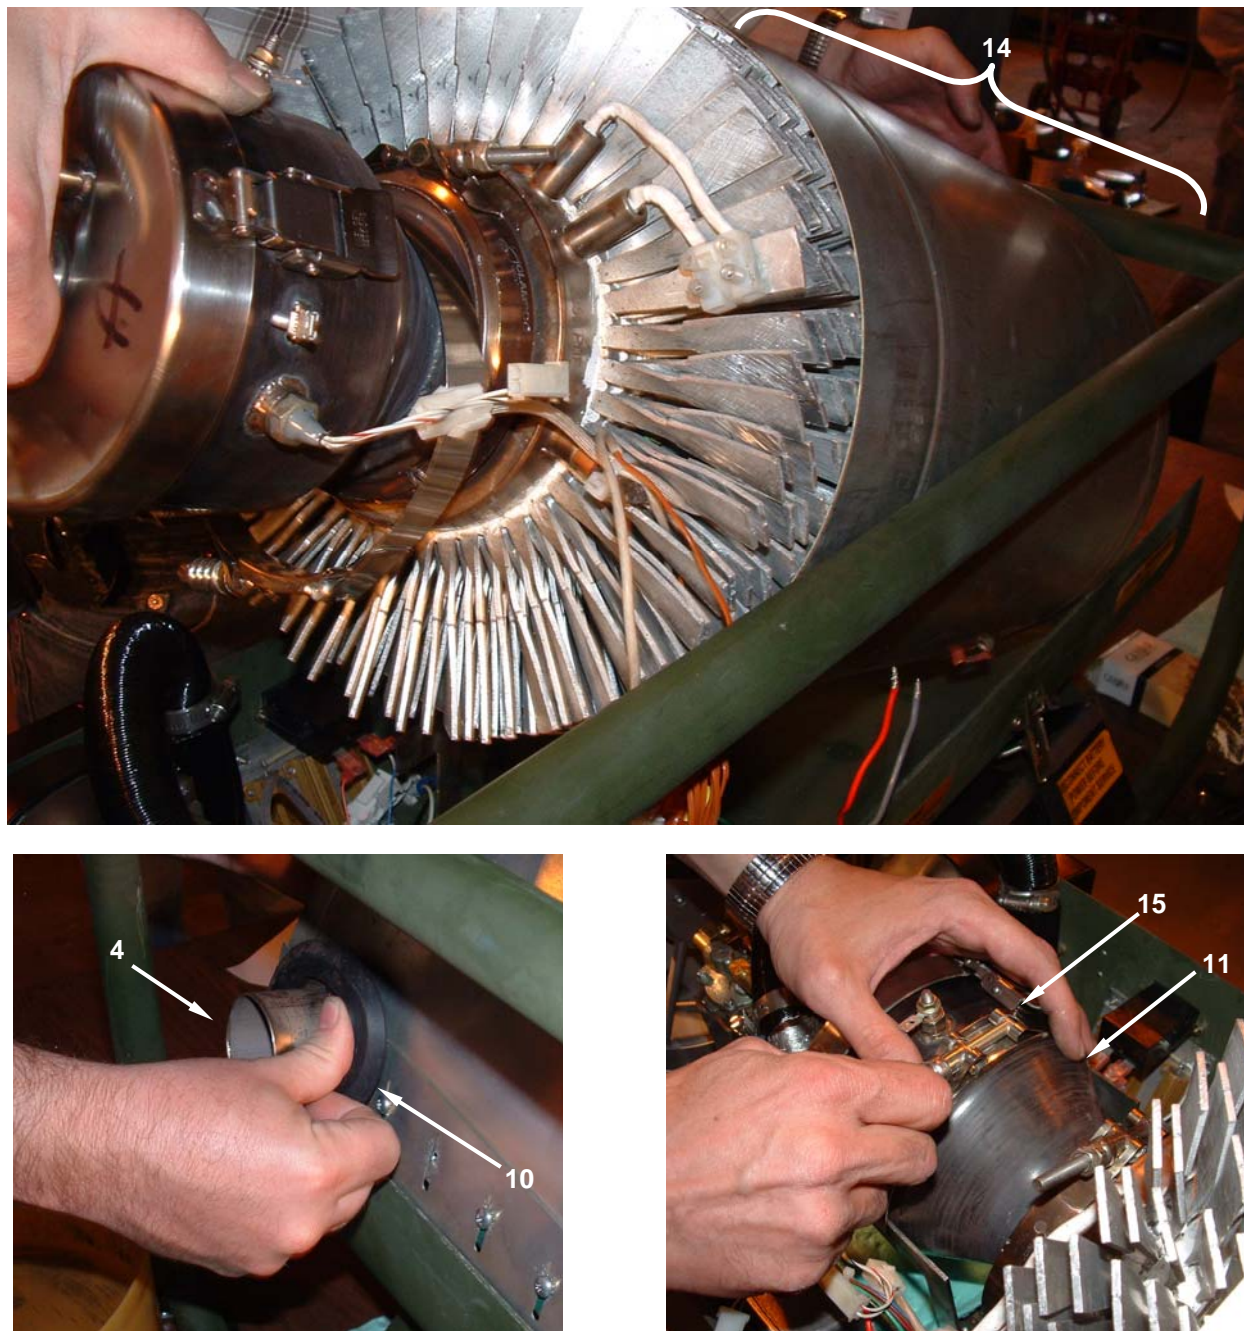

Figure 16. Install the Thermoelectric Generator – Install Into Heater.
11. Place assembled heat exchanger, TEG, and burner assembly (**Figure 16, Item 14**) into heater and align combustion exhaust outlet (**Figure 16, Item 4**) and grommet (**Figure 16, Item 10**) with the cutout in the lower housing assembly. Be sure to engage the groove in the grommet with the cutout in the lower housing assembly.
12. Tighten clamp (**Figure 16, Item 15**) retaining burner assembly (**Figure 16, Item 11**).